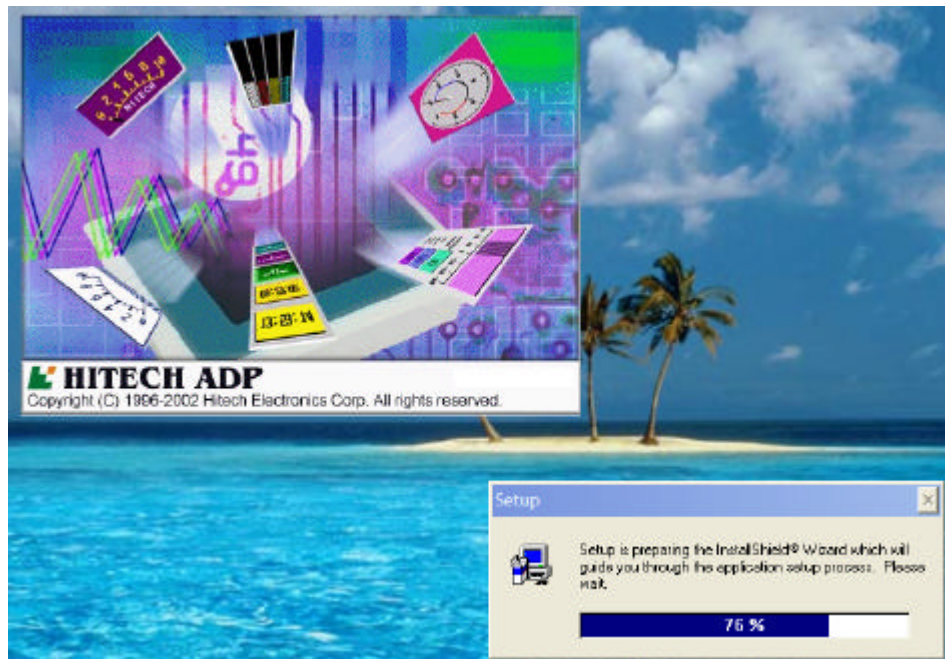

Fig 1-2 Installation process is started
3. Click “OK” button. System will prepare for installation. See Fig 1-2.